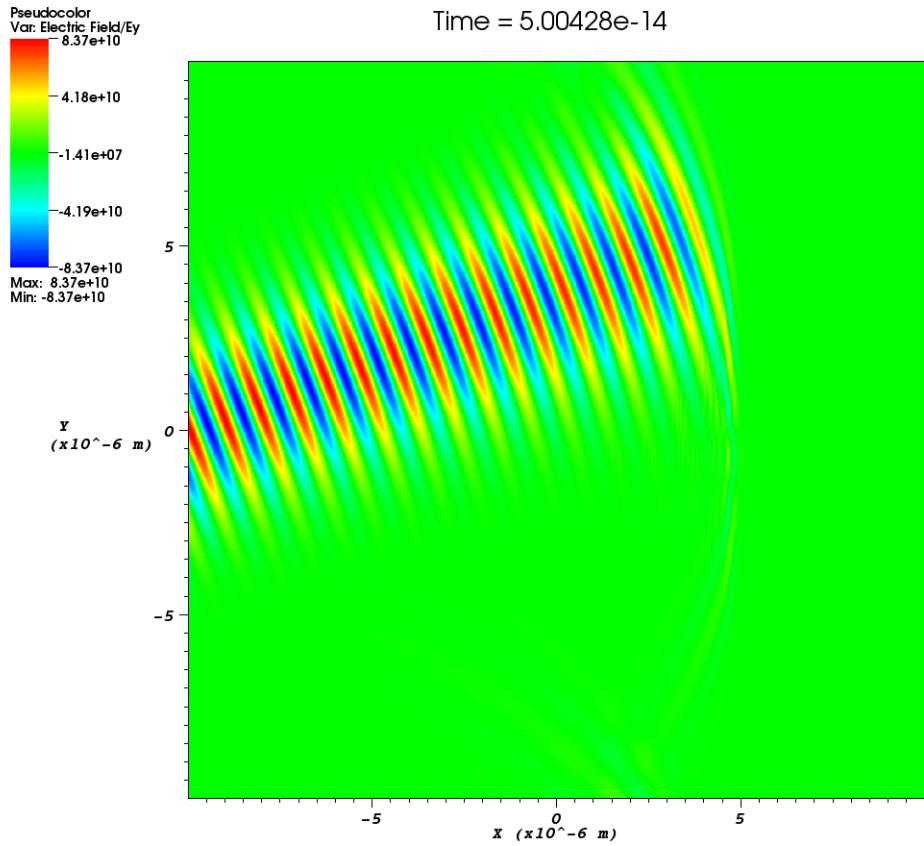
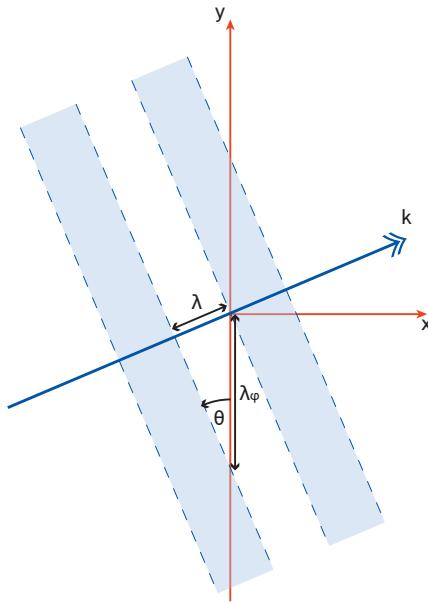

Figure 6: Angled laser profile
Figure 7: Laser at an angle
**phase** - Phase shift for the laser in radians. This is a spatial variable which is also defined across the whole of the boundary on which the laser is attached. This allows a user to add a laser travelling at an angle to a boundary as shown in Figure 6. The setup for this is not entirely straightforward and requires a little bit of explanation. Figure 7 illustrates a laser being driven at an angle on the x-min
boundary. Different wave fronts cross the  $y$ -axis at different places and this forms a sinusoidal profile along  $y$  that represents the phase. The wavelength of this profile is given by  $\lambda_\phi = \lambda / \sin \theta$ , where  $\lambda$  is the wavelength of the laser and  $\theta$  is the angle of the propagation direction with respect to the  $x$ -axis. The actual phase to use will be  $\phi(y) = -k_\phi y = -2\pi y / \lambda_\phi$ . It is negative because the phase of the wave is propagating in the positive  $y$  direction. It is also necessary to alter the wavelength of the driver since this is given in the direction perpendicular to the boundary. The new wavelength to use will be  $\lambda \cos \theta$ . Figure 6 shows the resulting  $E_y$  field for a laser driven at an angle of  $\pi/8$ . Note that since the boundary conditions in the code are derived for propagation perpendicular to the boundary, there will be artefacts on the scale of the grid for lasers driven at an angle.